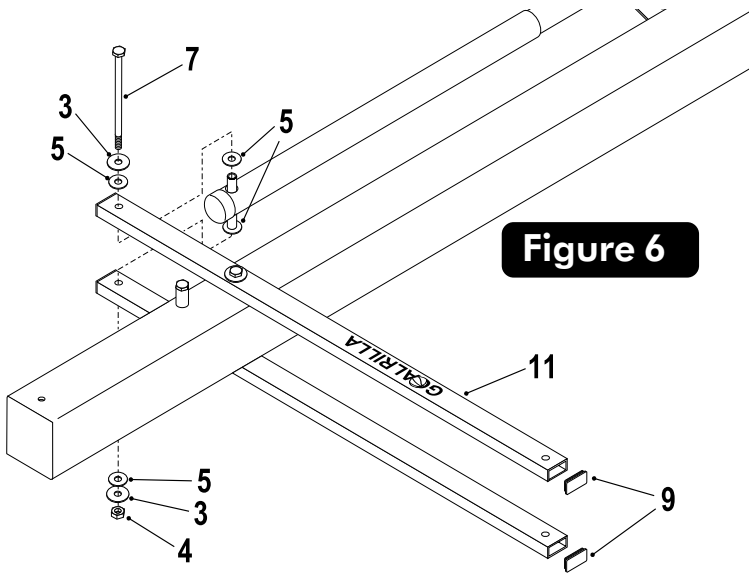

Figure 6
7. Secure Actuator (#16) to Lower Arms (#11) using one bolt (#7), two flatwashers (#3), four plastic washers (#5) and one hex nut (#4). See Figure 6. Tighten both bolts (#7) securing Lower Arm (#11).